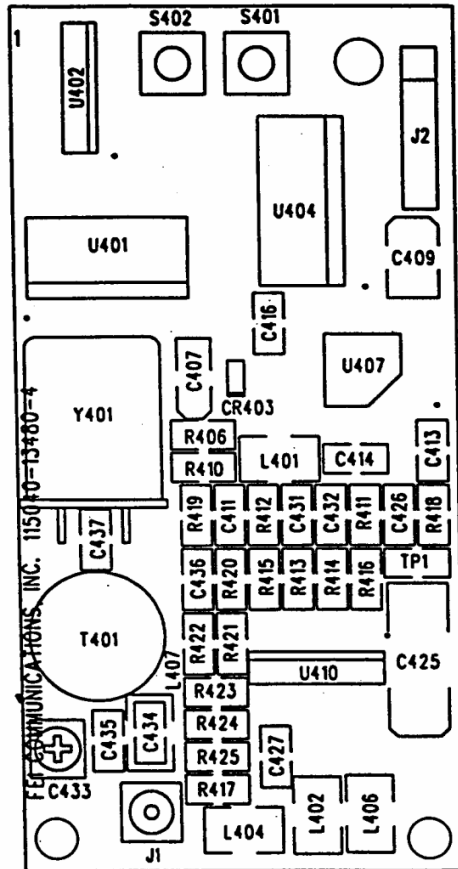

FIGURE 5.1. DIRECT DIGITAL SYNTHESIZER (DDS) PC ASSEMBLY COMPONENT LOCATIONS
- e. Locate the Direct Digital Synthesizer (DDS) printed circuit board which is at the side of the **RFS** to the far left of the "C"-Field potentiometer. Referring to Figure 5.1 (attached), locate the two push-button switches, S401 and S402.